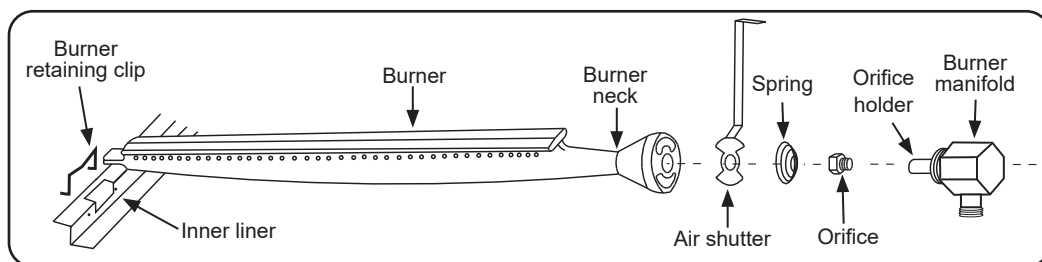

Fig. 40-1 - Burner orifice diagram
5. Install the air shutter spring and the air shutter over the orifice holder fitting in the order and position shown in Fig. 40-1. Carefully place the burner(s) back in position, resting on the back flange of the inner liner so that the brass orifice and orifice holder fittings project well into the burners.